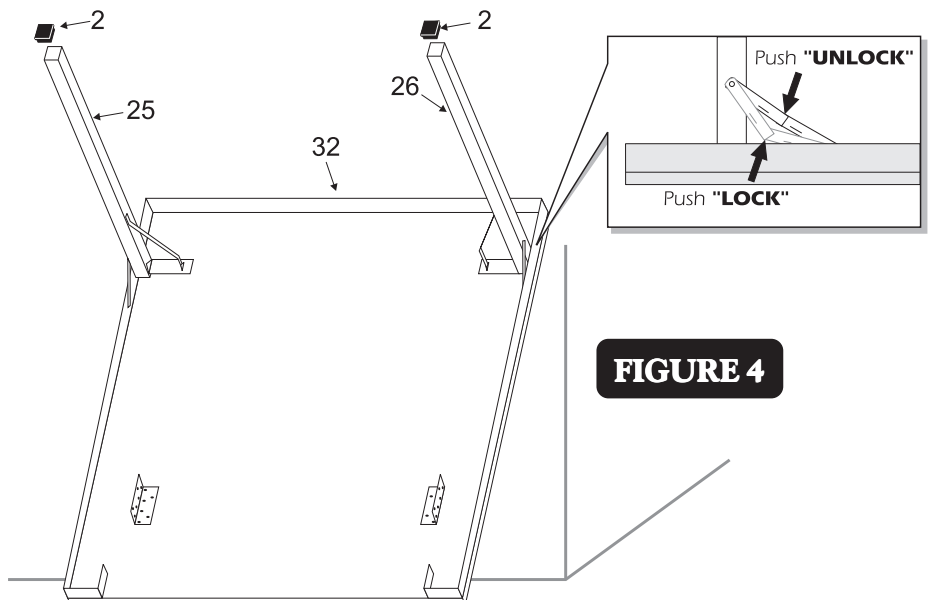

FIGURE 4
7. You may want to place a towel between table top and wall to keep from scratching wall. Take either table half #32 and lean it up against a wall. Turn it so that the two legs with hinges are up farthest from the floor. Place the bottom of the table about 12 inches away from the wall. (See figure 4)
9. Place leg caps #2 on ends of legs #25 and #26. (See figure 4)